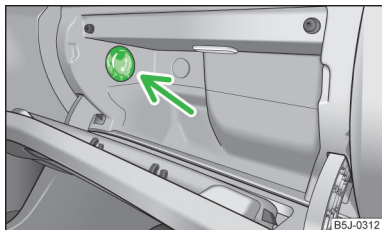

Fig. 82
- Use the rotary switch » Fig. 82 to open and close the air supply.